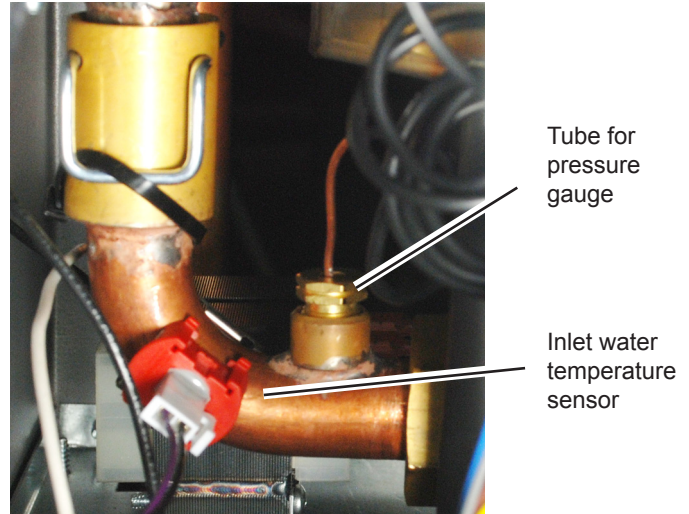

Fig. B3-1 - Inlet water temperature sensor (typical)
2. Remove the lower front cover. The inlet water temperature sensor is mounted in the lower left corner of the unit. See Fig. B3-1.